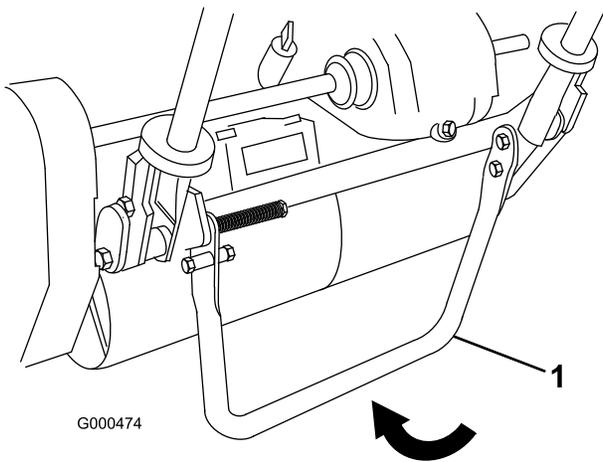

Figure 13
1. Push kick stand down with foot and pull up on handle support until kick stand has rotated forward, over center (Figure 13).